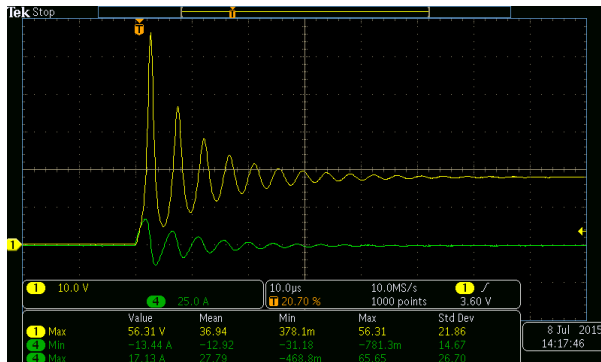
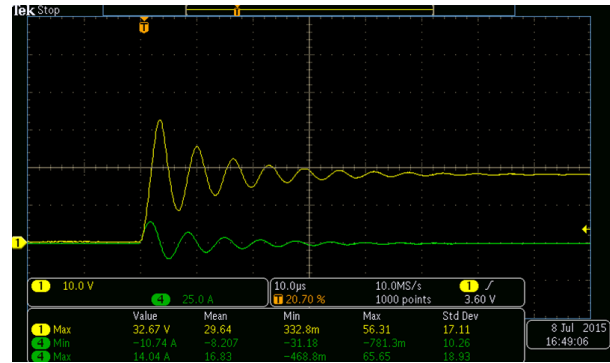

Figure 3: 1  $\mu$ F 50V X7R ceramic shorted to 18V through a 1-m cable
Figure 4: 1  $\mu$ F 100V X7R ceramic shorted to 18V through a 1-m cable
Figure 3 shows a 1  $\mu$ F X7R 50 V-rated ceramic that rings above the maximum rated voltage when an 18 V short is applied. After some thought and experimentation we found the root cause: ceramic capacitor derating versus applied voltage.
Since our short-to-battery testing simulates a short through a cable, the cable inductance (which stays constant) forces a sinusoidal current even as the capacitance of the ceramic drops rapidly. This causes the strange peaking shown in **Figure 3** and was the reason for our early failures. By more careful design on the output of  $V_{BUS}$ , these problems can be prevented. Three options are presented as solutions, each with their own advantages and disadvantages.
**Figure 4** demonstrates the difference capacitor selection can have for the exact same short as applied in **Figure 3**.